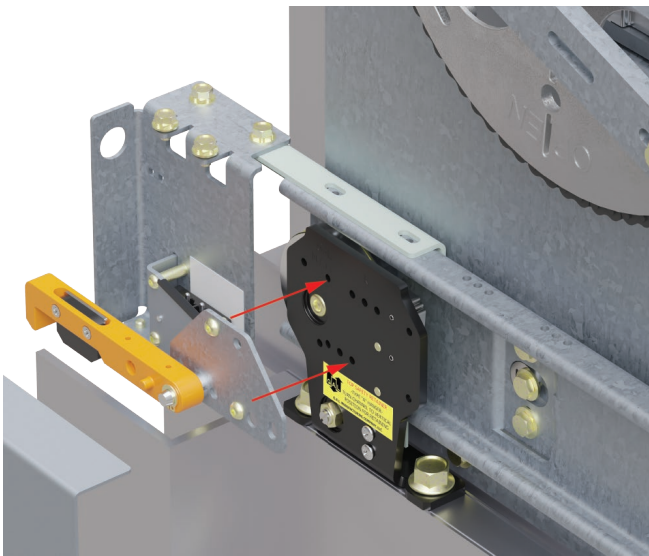

Figure 27: Keeper Mounting
2. Mount keeper to the leading sheave on the car door with provided button head screws, as shown in **Figure 27 and 28**.